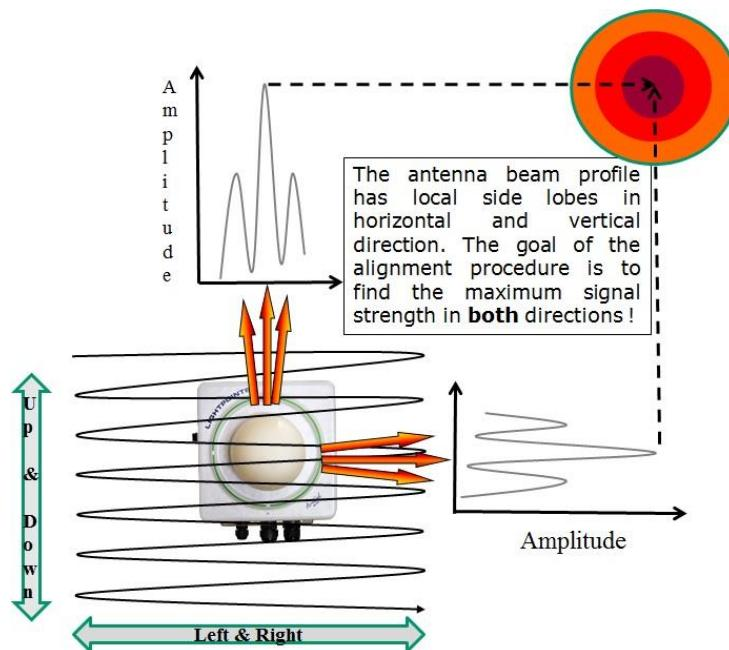
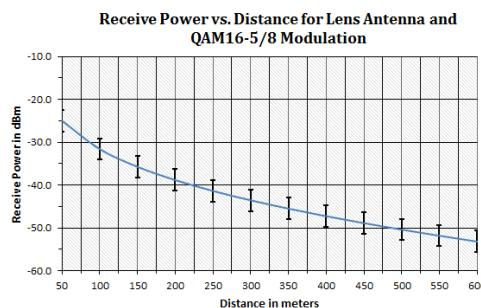
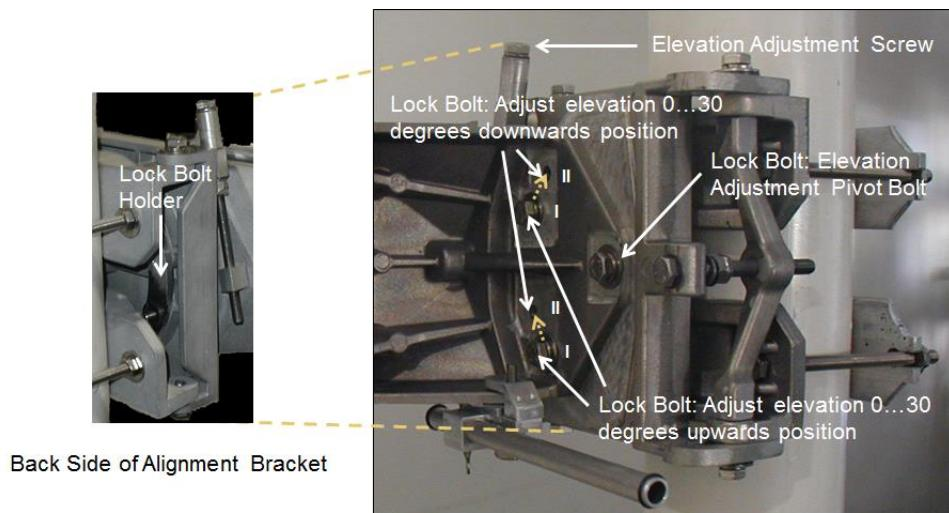
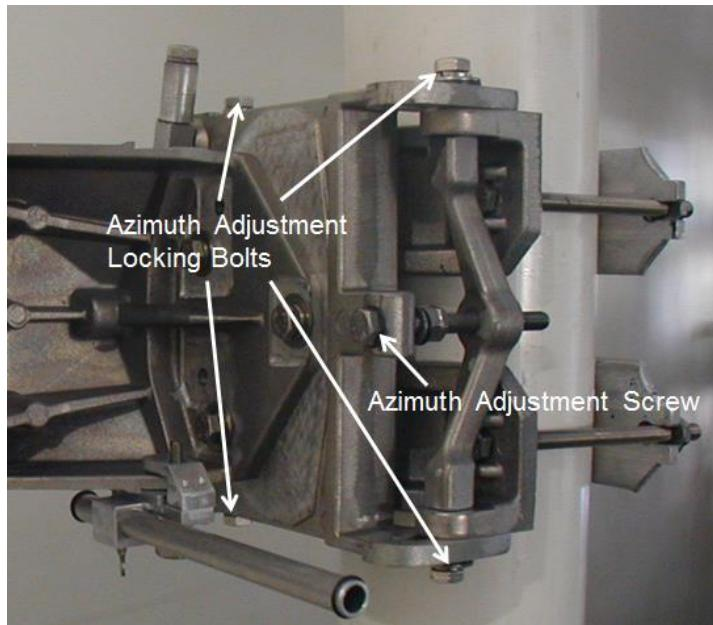

Figure 5-7: Simple illustration of the alignment process
Figure 5-8: Typical AireLink 60-SX RSSI vs. Distance Charts for standard distance setting.
Figure 5-14: Elevation Adjustment
Figure 5-15: Azimuth Adjustment
8. The alignment tool is meant to provide a rough alignment towards to opposite antenna location. It is however not an exact tool for finding the best alignment of the antennas. More precise alignment is done via the digital voltmeter or the *LightPointe BLE Tool* that measures the receive signal strength/RSSI voltage. Within several dB of accuracy the RSSI voltage reading in Volt corresponds to the RF RSSI signal reading in dBm. In other words, and with the correct polarity chosen, a system that is not aligned at all will show a negative voltage reading close to -0.80 Volt and this translates into -80 dBm. This signal level is far too low to establish a data connection. During the alignment process the voltage reading will increase, meaning "less negative" voltages or higher RF RSSI reading in dBm will be recorded. The goal is to align the system at its best possible and highest RSSI reading (e.g. increase the voltage reading from -0.8 V to -0.5V). LightPointe provides a distance vs. voltage reading chart for the AireLink 60 system using either the integrated or the external antenna options (see Figure 5-8). When using the *Lightpointe BLE Tool*, the RSSI reading is given in dBm directly.
10. Ensure that the antennas are not aligned on a side-lobe. In particular when the system is installed over short distances the side-lobes can be easily seen. Rotate the antenna a few degrees to each side of the perceived alignment center and both side-lobes can be detected as "local RSSI voltage minima". The main lobe which is located right in the middle between the two side lobes will have a much higher voltage reading. Fig. 5-7 shows a simple illustration of the alignment process and the location of the antenna side lobes in relation to the main lobe.
11. When aligning the system it is important to take a look at the Receive Signal Strength chart shown in Fig. 5-8. The RSSI chart shows the RSSI signal voltage as a function of the deployment distance in clear weather conditions. Therefore, and when the system is installed under non-clear weather conditions, the values can be lower during the actual installation process. 60 GHz systems are also impacted by oxygen absorption (see Fig. 2-2) and these values can also vary several dB between sea level installations and installations at higher altitudes. The RSSI values are different for the low band and the high band radio and the values vary slightly and within a few percent from one radio system to another due to manufacturing tolerances. However, the chart provides a very good indication of expected RSSI values as a function of deployment distance. The overall goal of the alignment process is to align the system as close as possible to the RSSI value provided in the RSSI chart.
12. After maximizing the RSSI signal levels on both sides of the link, do not forget tightening the Elevation and Azimuth Locking Bolts (see Fig. 5-7 and Fig. 5-8).
To adjust the elevation settings of the antenna see Fig. 5-7 and perform the following steps:
3. In case the elevation must be adjusted upwards, ensure that the two Elevation Locking Bolts marked **I/II** in Fig. 5-14 are both in position **I**. If not, keep the Pivot Bolt in place and unscrew these two locking bolts. Support the antenna when removing the last/second bolt to avoid the antenna sliding down. On the back of the alignment bracket is the lock bolt holder (see Fig. 5-7) and it needs to be put in place again before re-inserting the bolts in position **I**. Do not completely tighten the bolts to allow the antenna to move when turning the Elevation Adjustment Screw.
1. To adjust the azimuth settings of the antenna see Fig. 5-15 and perform the following steps:
9. After maximizing the RSSI signal levels on both sides of the link, do not forget tightening the Elevation and Azimuth Locking Bolts (see Fig. 5-14 and Fig. 5-15).